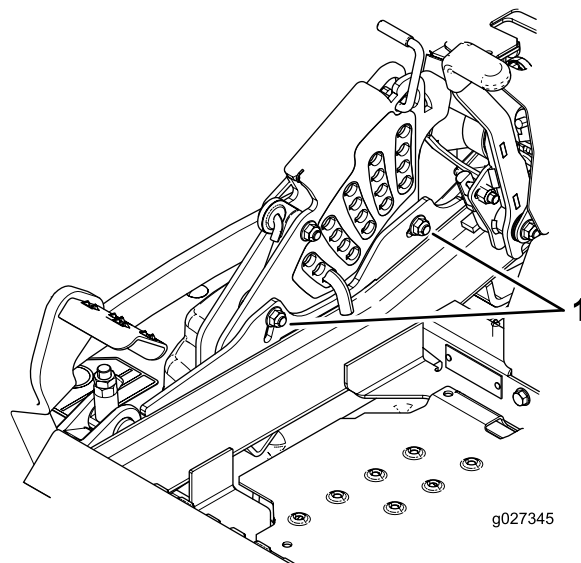

Figure 103
11. To adjust the single-point system, loosen the 2 bolts at the bottom of the height-of-cut plate (Figure 103).
13. Tighten the 2 bolts at the bottom of the height-of-cut plate (Figure 103).